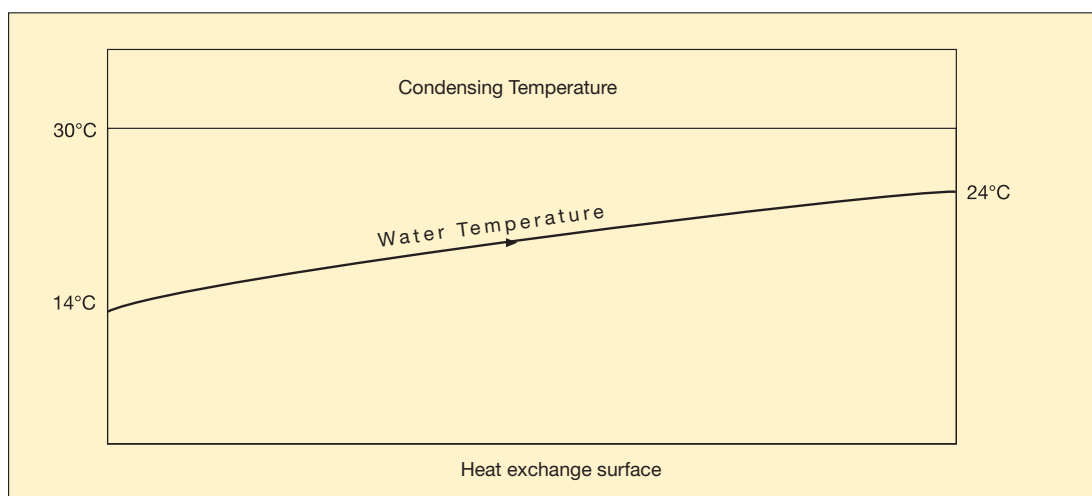

Fig. 1 – Heat exchange pattern in the condenser
- Condensation temperature expected on the basis of the water/refrigerant heat exchange in the condenser: approximately 6 °C above the water temperature at the outlet, equivalent to 30 °C (with a corresponding saturation pressure) (fig. 1).